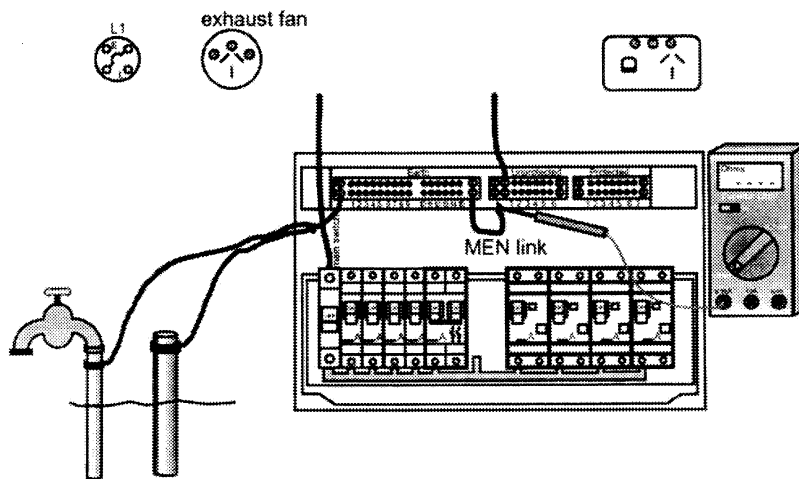

Figure 12.1 Measuring resistance of earthing conductors
- Draw the circuit arrangement for performing the test in Figure 12.1.